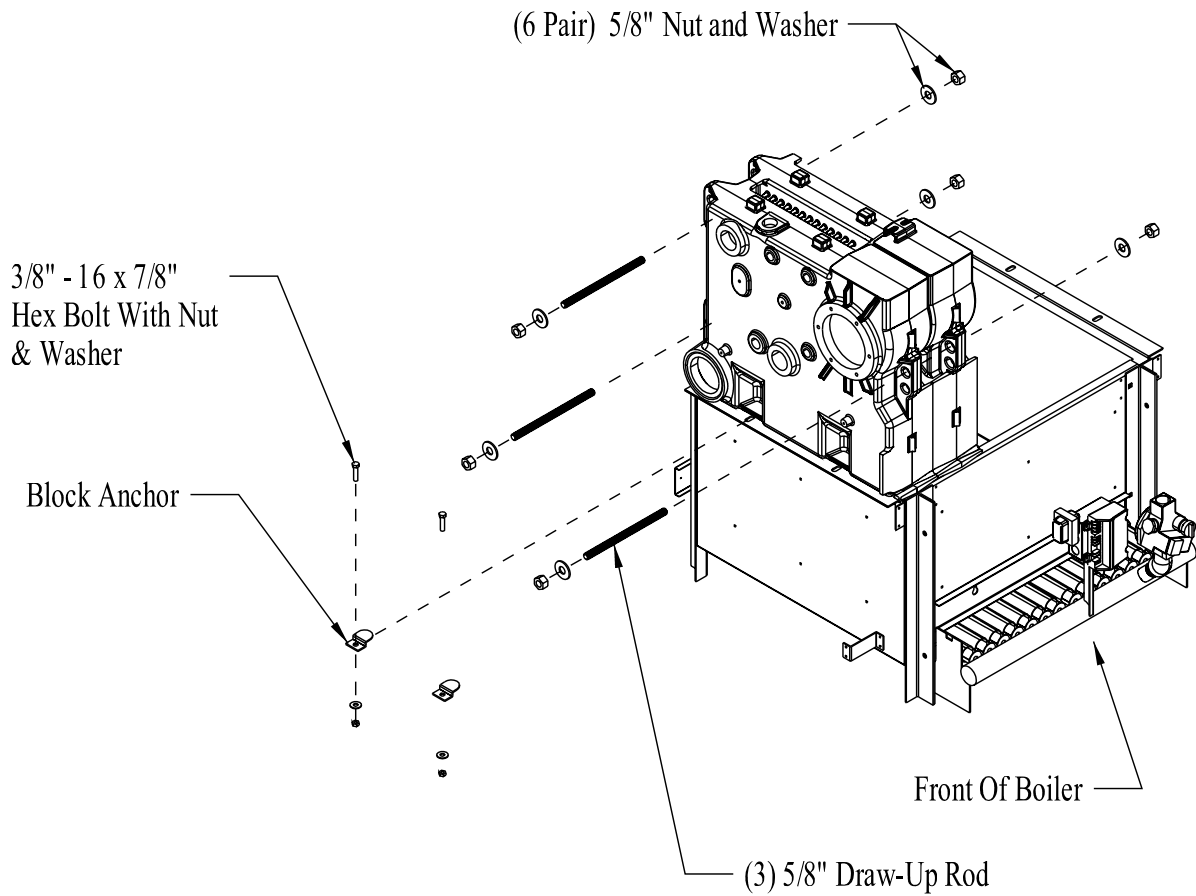

Figure 6: Assembly Of Sections
- 12) Install four block anchors using 3/8 x 2" cap screws, nuts and washers (Figure 6).